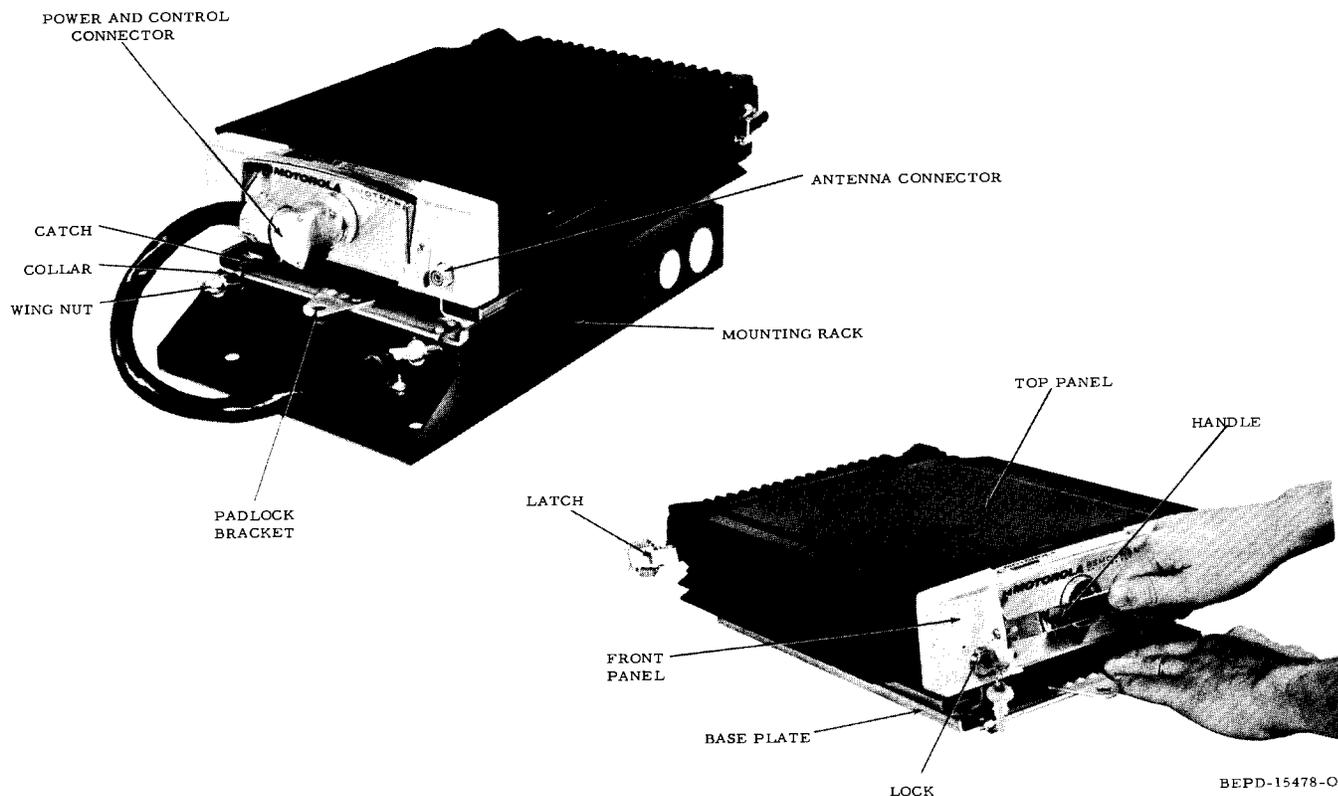

Figure 24.
a. Removal of Standard AAR Housing Refer to Figure 24.
- (1) Disconnect the antenna cable plug.
- (2) Disconnect the power and control cable plug from the front of the radio set.
- (3) Remove the padlock (if used) that secures the base plate to the mounting rack.
- (4) Loosen the wing nuts on the mounting rack and pull the collars outward to free the base plate catches.
- (5) Remove the radio set from the mounting rack and place it on a bench or similar horizontal surface.
- (6) Release the latches at both sides of the radio set.
(7) Unlock the radio set by inserting one of the keys provided into the lock and turning the key counterclockwise to the horizontal position.
(8) Hold the base plate or brace it against a solid object and pull the radio set from the base plate by the handle.
(9) Slide the top panel rearward from under the edge of the front panel and lift off the top panel.
b. Replacement of Standard AAR Models into Housing Refer to Figure 24.
(1) Be sure the radio set is unlocked with the key in the horizontal (counterclockwise) position.